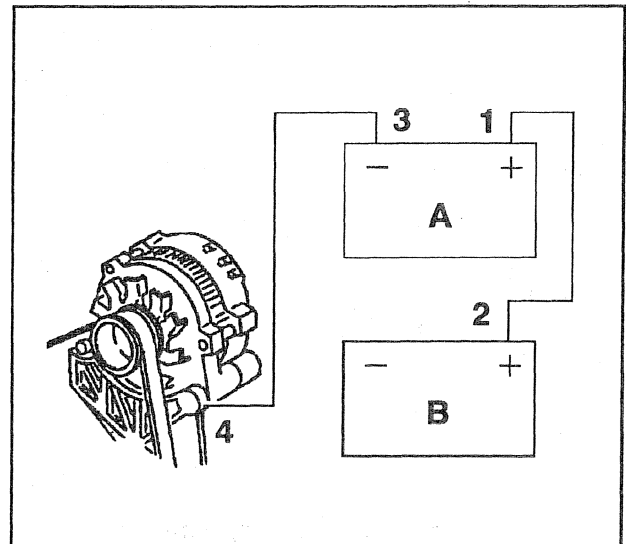

Figure 9—Installing Jumper Cables
4. Attach the end of one jumper cable to the positive terminal of the booster battery and the other end of the same cable to the positive terminal of the discharged battery (figure 9). A is the charged battery, B is the dead battery.
6. Make the final connection of the negative cable to a solid ground (such as an A/C compressor bracket), at least 450 mm (18 inches) from the battery of the vehicle being started (figure 9).